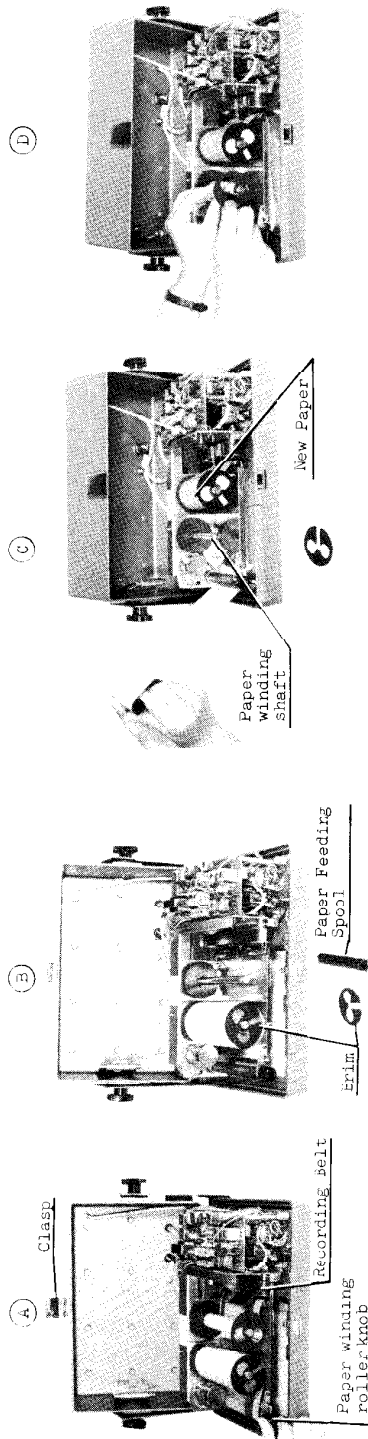

Fig. 2-9
2. Rotate the paper winding roller knob clockwise to wind-up the used paper. (Fig. 2-9 (A) (B))
5. Insert the end of the paper into the slot of the winding spool, which was the paper feeding spool, and wind it two or three turns, then set it to the paper winding shaft. (Fig. 2-9 (C))
6. Put back the brims and connect the paper use by the paper winding roller. (Fig. 2-9 (D))